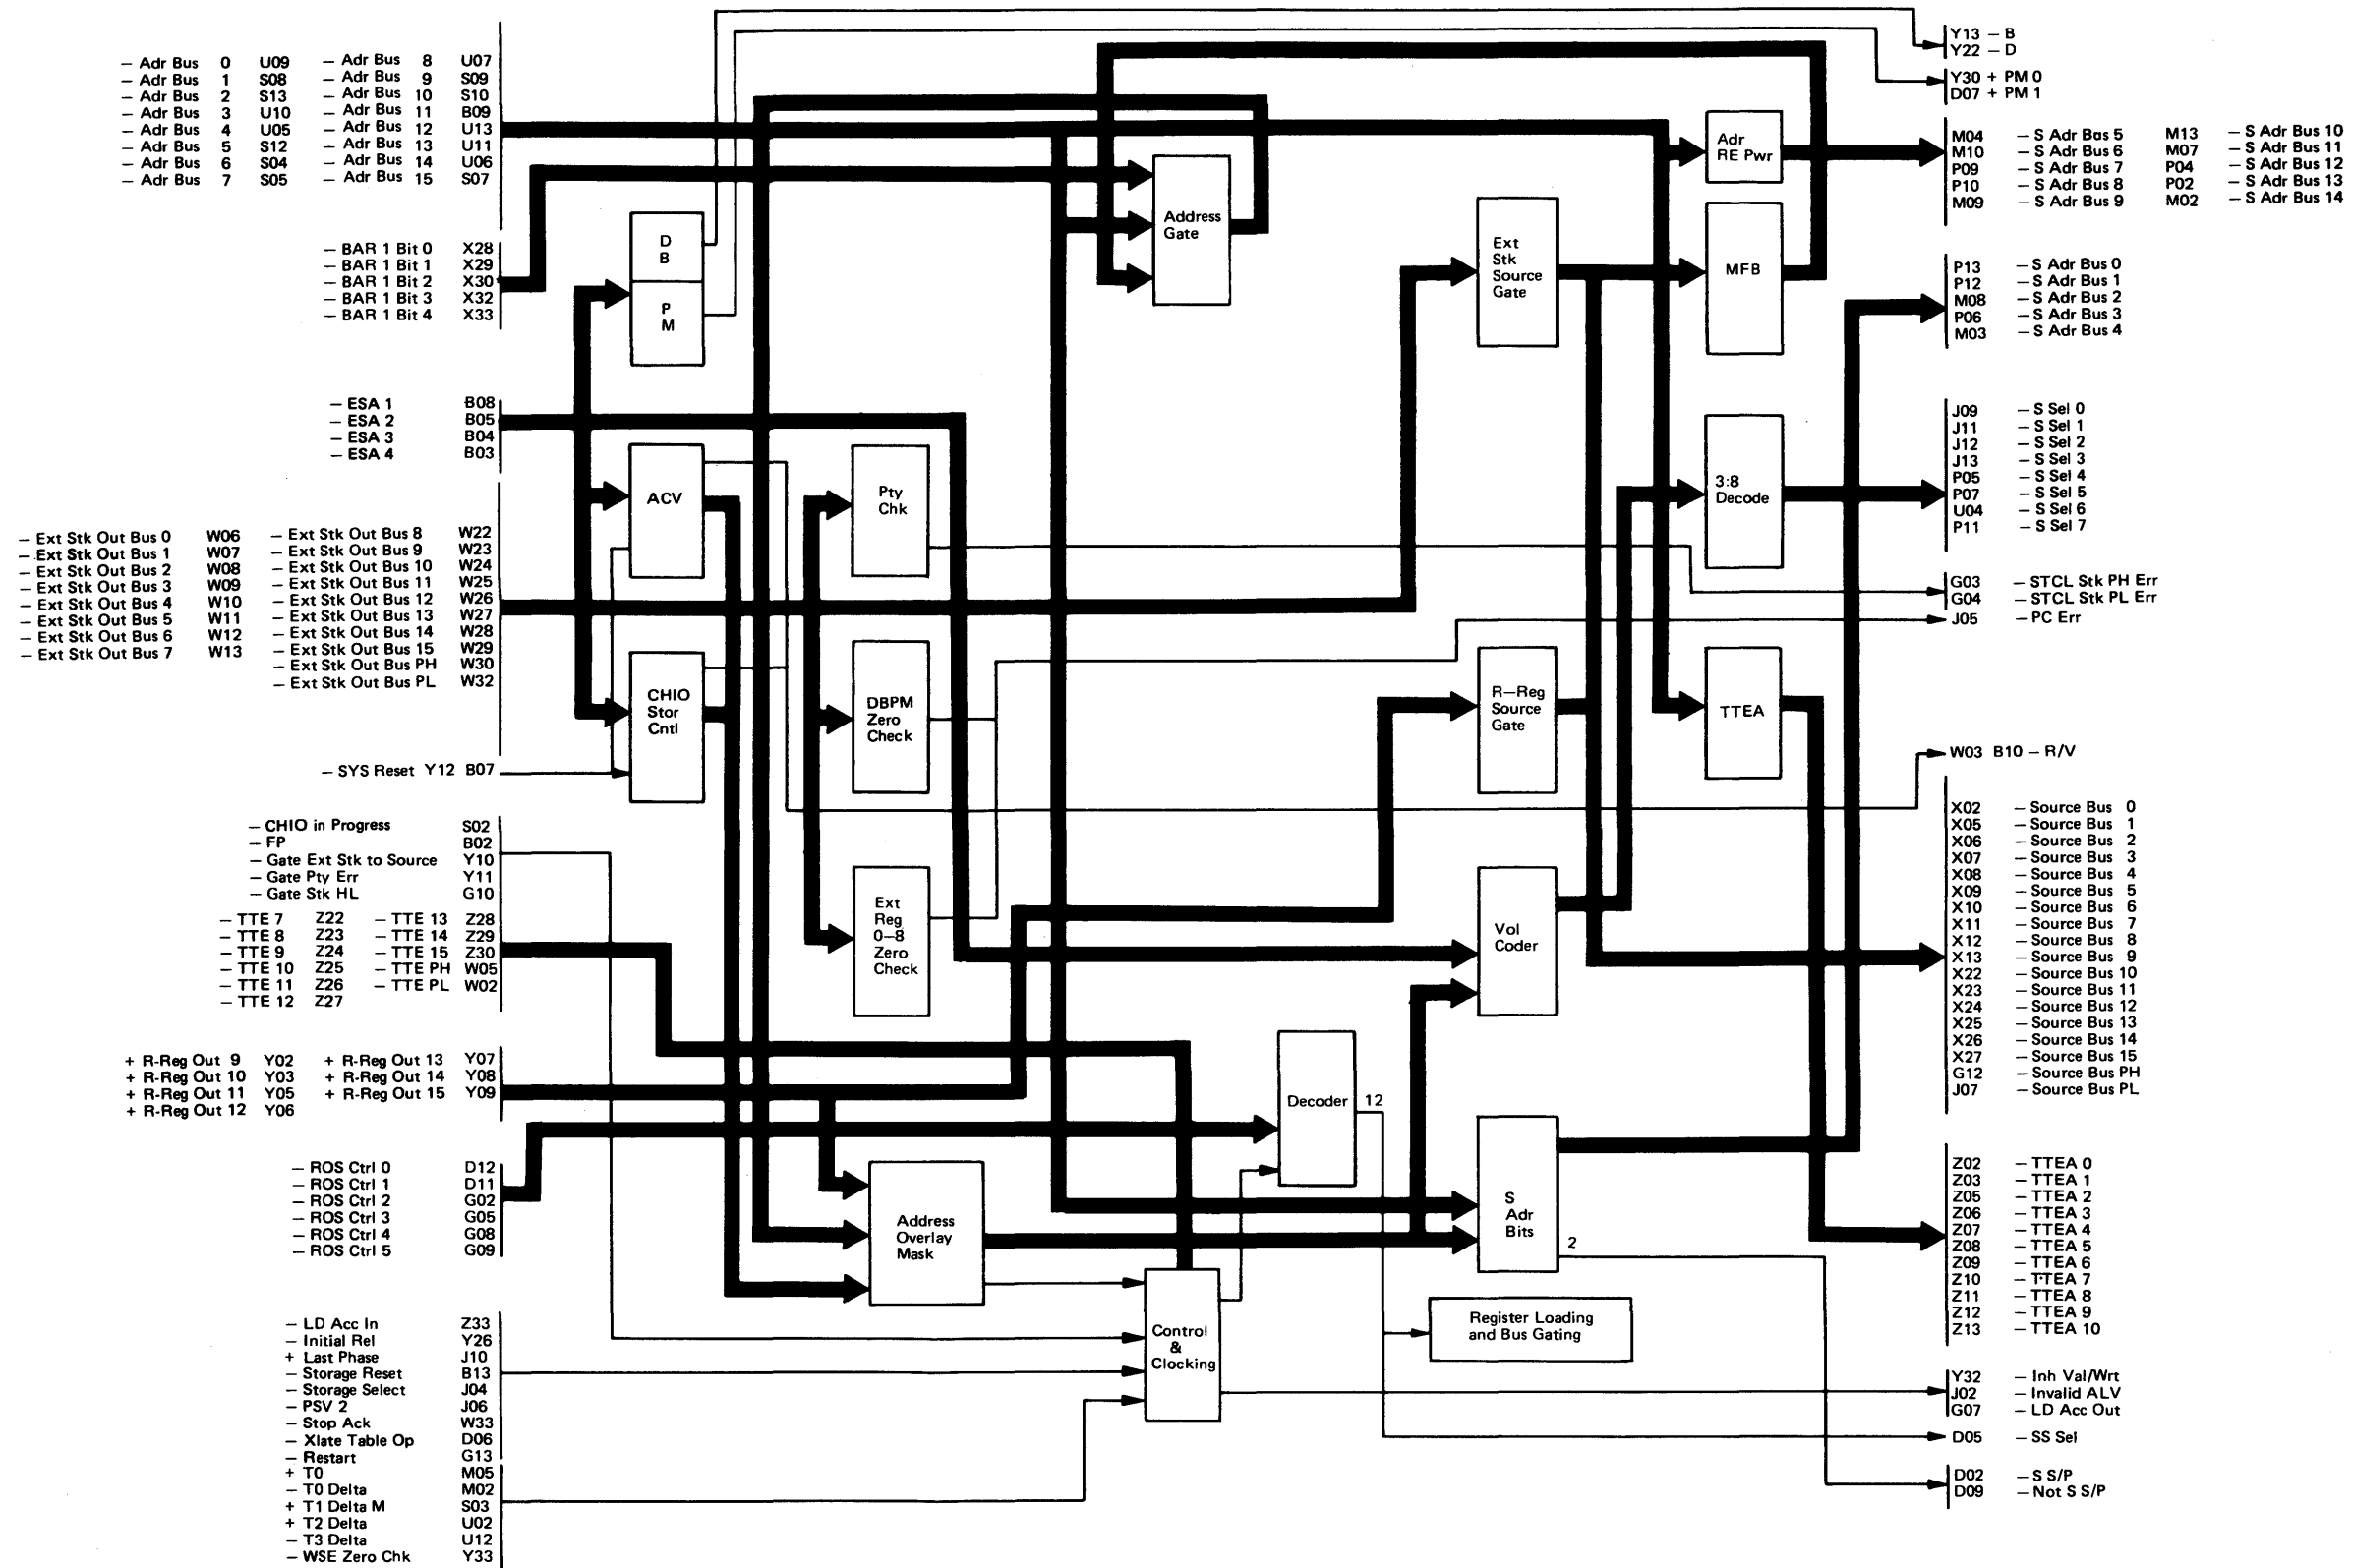

Figure BU457-2. 8140 Storage Addressing Card Data Flow
- The 8140 uses two cards. In the AXX models they are located in positions A1K2 and A1L2; in the BXX models they are located in positions A1N2 and A1P2. The L2 and P2 cards contain a 2048 x 18 bit array used for the translation table, and also contain part of the checking circuitry (see Figures BU457-2 and BU457-3).